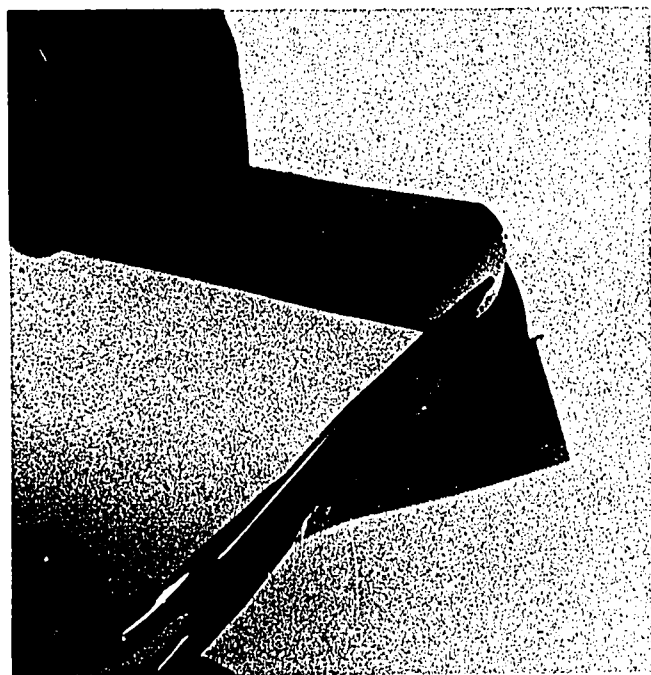

Fig. 4C-11. Trimming the Ends
5. Cut each long piece of tape at an angle between the mark and the opposite corner. See Fig. 4C-10.
6. Trim the ends of the airframes completed by Student 1. See Fig. 4C-11.
7. Cut a $3\frac{1}{4}$ " length of soda straw to make a launch lug for each member of the group. See Fig. 4C-12.